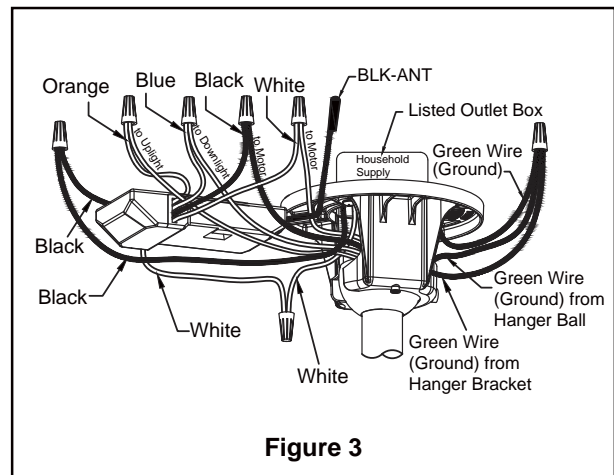

Figure 3
2. Connect green wires from hanger bracket and hanger ball to bare (ground) wire using wire connector. Connect black wire from receiver unit marked "AC IN L" to black supply wire using wire connector. Connect white wire from receiver unit marked "AC IN N" to white supply wire using wire connector. Connect white wire from receiver unit marked "TO MOTOR N" to white wire from fan using wire connector supplied with receiver unit. Connect black wire from receiver unit marked "TO MOTOR L" to black wire from fan using wire connector supplied with receiver unit. Connect blue wire from receiver unit to the blue downlight wire using wire connector supplied with receiver unit. Connect orange wire from receiver unit to the orange uplight wire using wire connector supplied with receiver unit. (Figure 3)